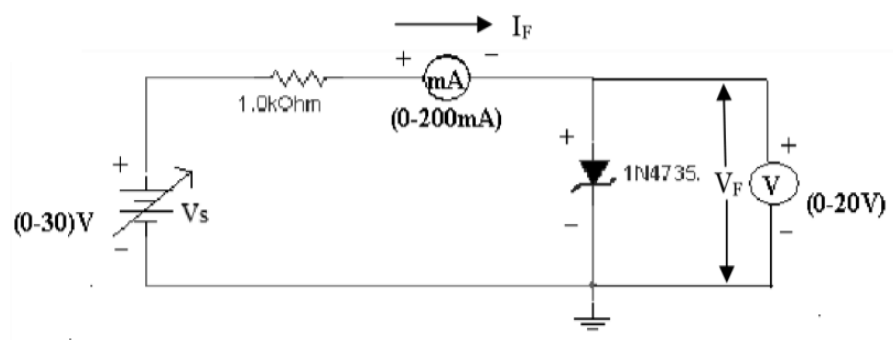

Figure 2: Zener diode in forward bias
1. Connect the circuit as shown in figure2.